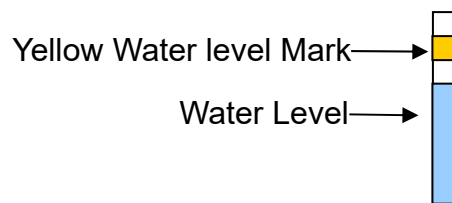
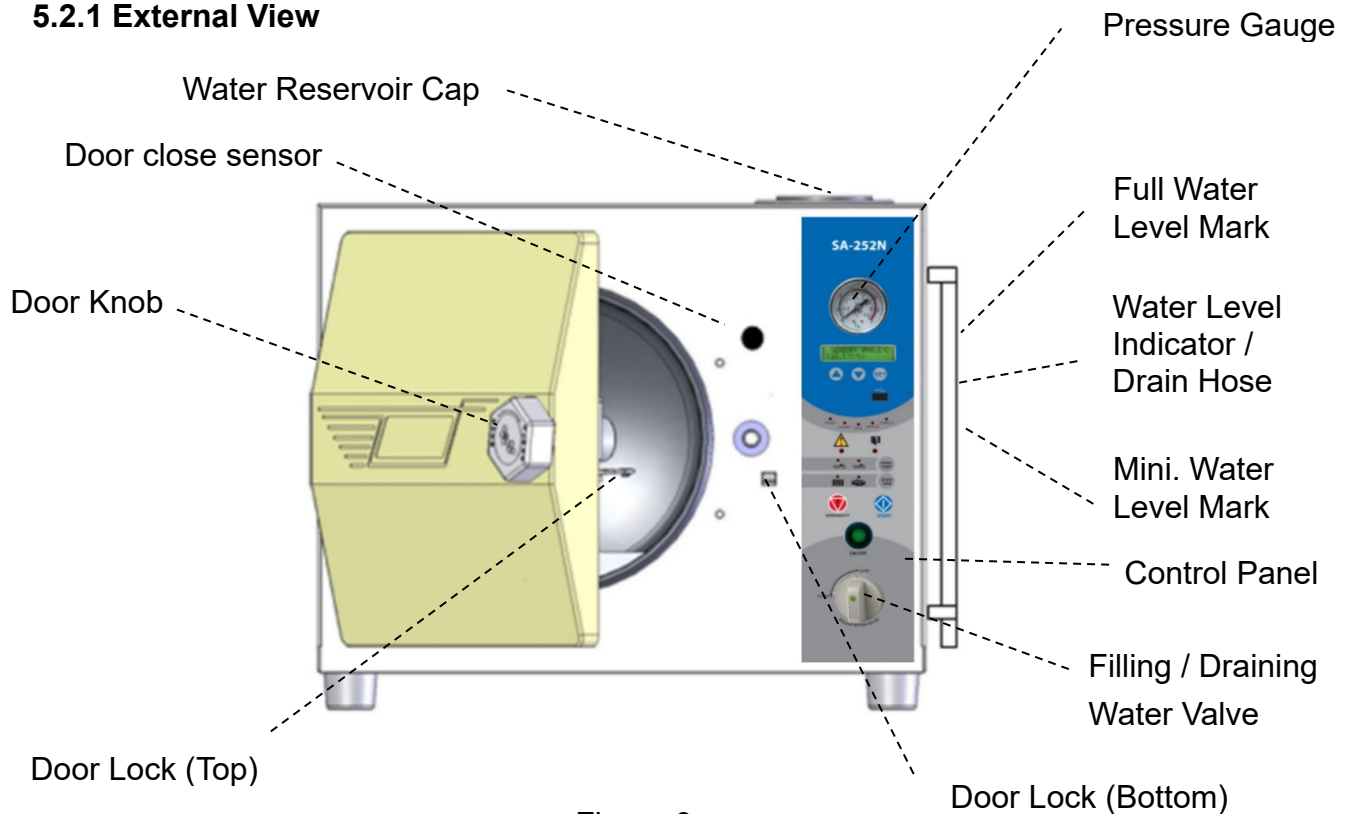

Figure 3
Figure 9
**Caution:** Please fill Distilled Water Only into the unit. Take care not to overfill the yellow water level mark as Figure 3 and Figure 9.